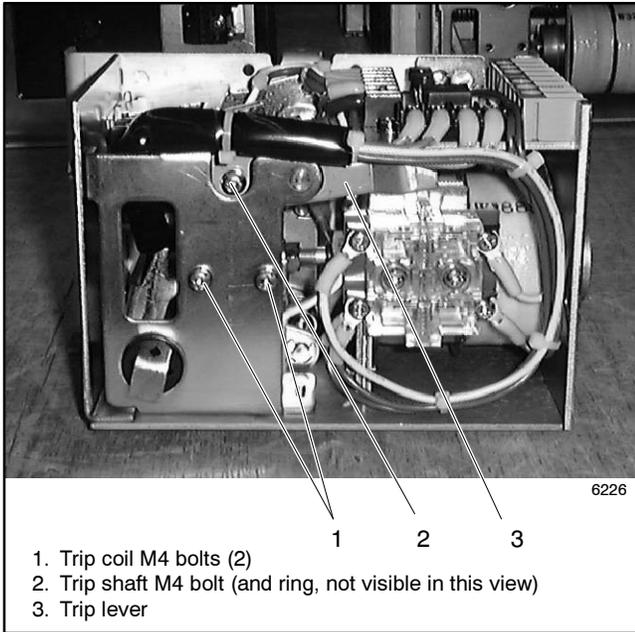

Figure 6-23 Trip Coil and Trip Shaft Bolts
3. Remove two M4 bolts that secure the trip coil. See Figure 6-23.